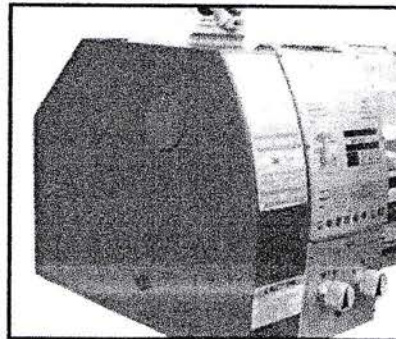

Fig. 19
1. Unscrew the two fastening screws (B, Fig. 19) and remove the protective cover.